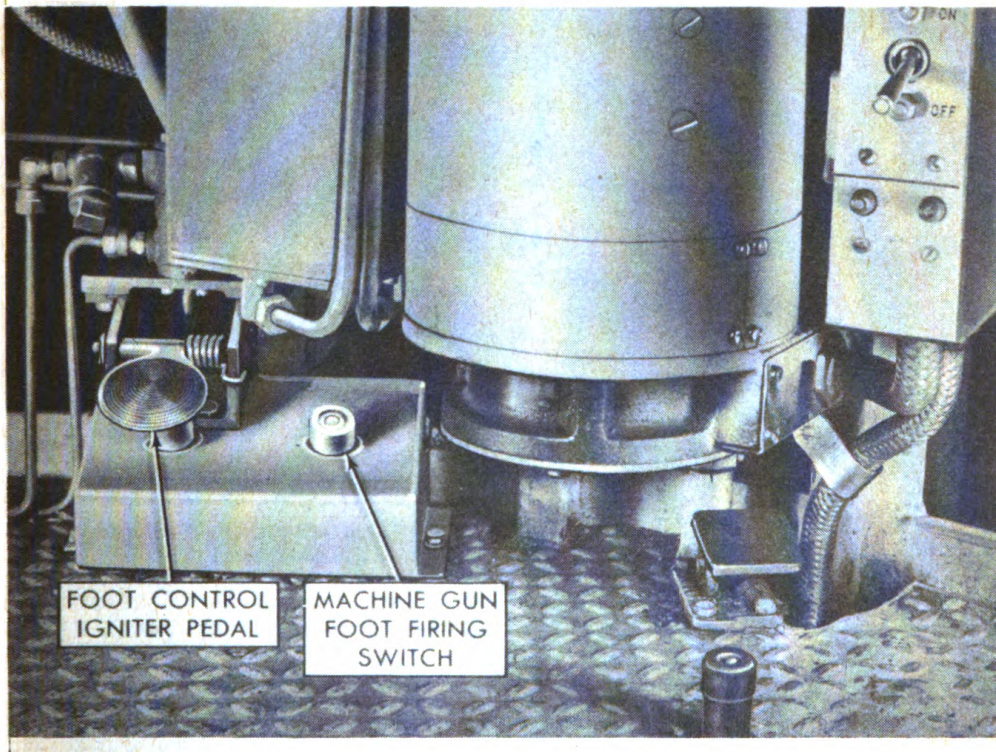

Figure 6—Gun controls (operated by gunner's left foot).
(2) *Foot control igniter pedal* (fig. 6). The foot control igniter pedal is located on the basket floor in front of the gunner and is operated by the gunner’s left foot. With the ignition safety switch on “ignition” (red light showing) depression of the pedal closes the electrical ignition circuit and provides sparks at the dual spark plugs in the special dummy 75-mm. rifle tube. It simultaneously releases air and atomized gasoline in a spray around the sparks. This causes the air-atomized gasoline to ignite, and provides the ignition flame. To operate, press firmly on igniter pedal with left foot to full extent of travel. When foot pressure is removed, springs automatically return atomizer valve and the button under igniter pedal to neutral position, stopping the ignition flame.
(4) *Cal. .30 machine gun foot firing switch* (fig. 6). This foot firing switch is used to electrically fire the cal. .30 machine gun which is mounted coaxially with the flame gun. It is located on the basket floor to the right of the foot control igniter pedal and is operated by the gunner's left foot. To operate machine gun electrically, push foot firing switch with left foot.